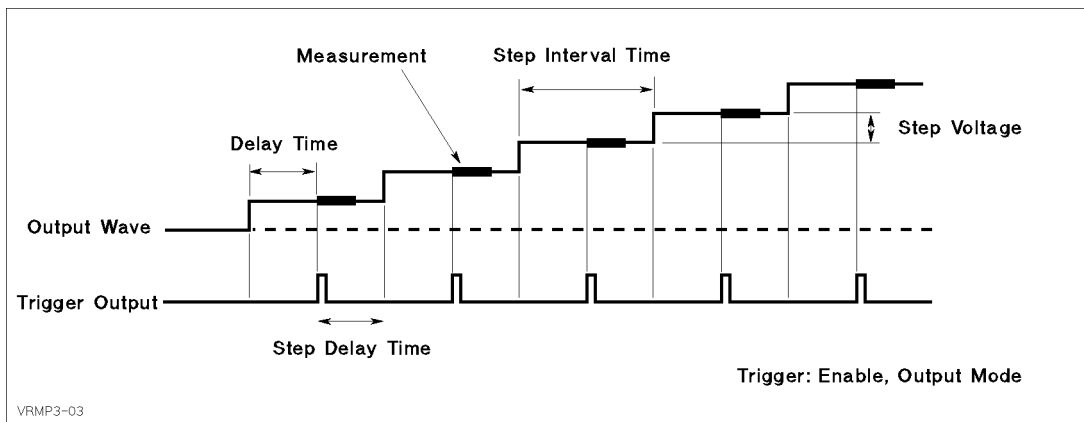

Figure 3-5. Output Sweep Voltage for Ramp Stress Test
- Constant step interval time (see Figure 3-5):
VRSWEP.MES enables the TRIG OUT function, and the sample program calculates and sets values so that the step interval time becomes constant as shown in Figure 3-5. The *step interval time* ($Step_time$) is the *delay time* ($Step_delay_t$) plus *step delay time* ($Step_keep_t$). Strictly speaking, the sample program calculates these as follows: